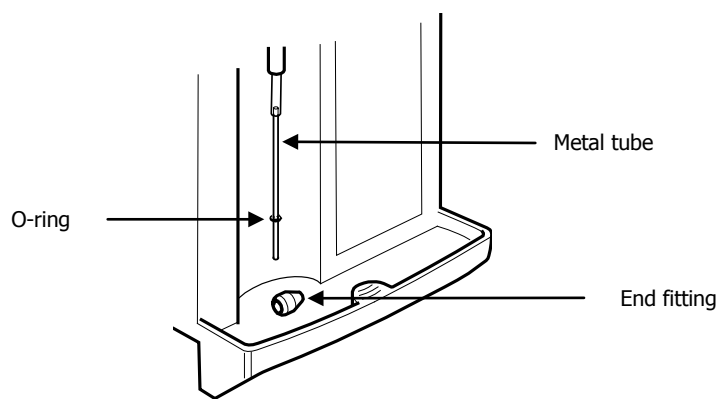

Figure 17 Removing the tubing from the probe
3. Remove the end fitting from the probe and pull on the metal tube until the connection with the plastic tube is visible, as shown in Figure 17.